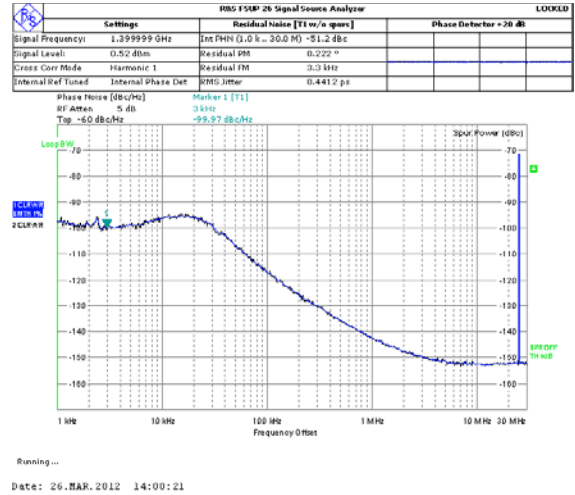

Figure 6. Signal Source Analyzer Display
7. In the software window, set the RF frequency (Figure 6 shows a screenshot of the signal source analyzer operating in phase noise mode, taken at a frequency of 1.4 GHz). Set the PFD frequency as defined in ADIsimPLL, and program the reference frequency to 25 MHz if the on-board TCXO is used or to the frequency that has been supplied to the REFIN connector. See Figure 7 for the suggested setup.
8. Measure the output spectrum. Figure 6 shows a 1.4 GHz output.